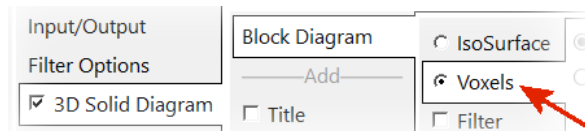

Figure 19
- Set up the *3D Solid Diagram* to plot the solid as *Voxels* (Figure 19).